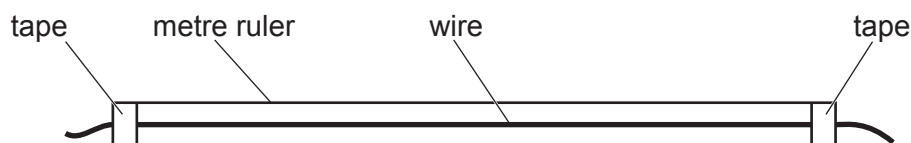

Figure 4.1
- 4.1** One of the lengths of wire should be taped to the metre ruler as shown in Figure 4.1, so that the effective length of the wire is 100 cm.